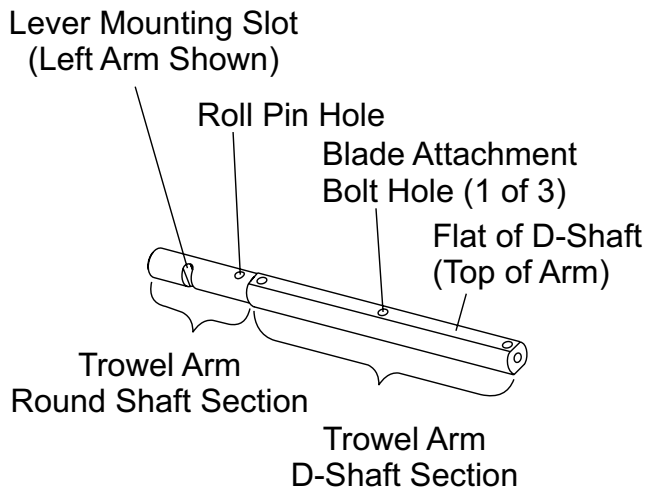
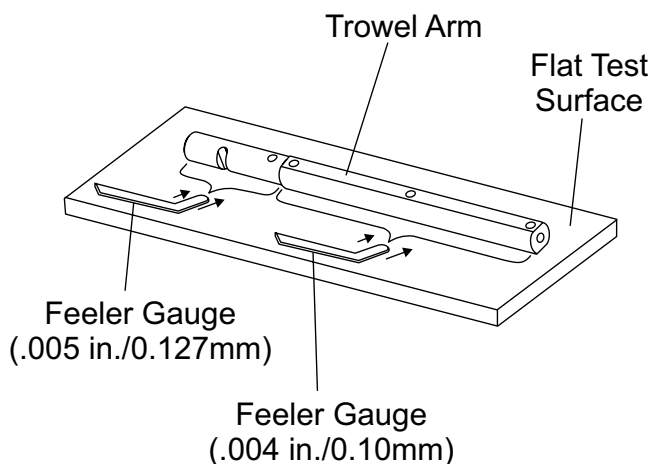

Figure 40. Trowel Arm
Figure 41. Checking Trowel Arm Flatness
Trowel arms can be damaged by rough handling, (such as dropping the trowel on the pad), or by striking exposed plumbing, forms, or rebar while in operation. A bent trowel arm will not allow the trowel to operate in a smooth fluid rotation. If bent trowel arms are suspect, check for flatness as follows, refer to Figure 40 and Figure 41:
2. Check each of the six sides of the trowel arm (hex section). A feeler gauge of .004" (0.10 mm) should not pass between the flat of the trowel arm and the test surface along its length on the test surface. (Figure 41).